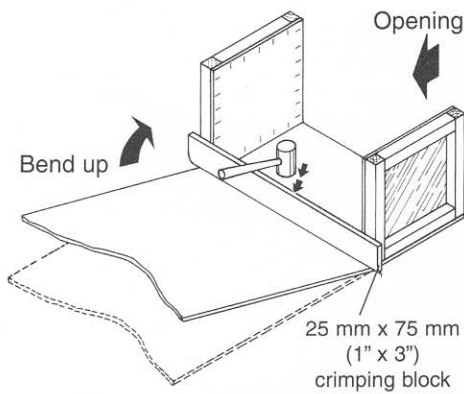

Figure 5.
10. To fold the triwall material, invert the partly assembled container such that the triwall is flat on the floor or workstation. Align the pointed edge of the crimping block over the area to be crimped by placing the edge of the crimping block against the cedar frame as illustrated in Figure 5. With the crimping block in position, strike it with a heavy rubber mallet, moving from one end to the other. This procedure indents the triwall and allows it to bend easily and precisely around the cedar end cap frames.